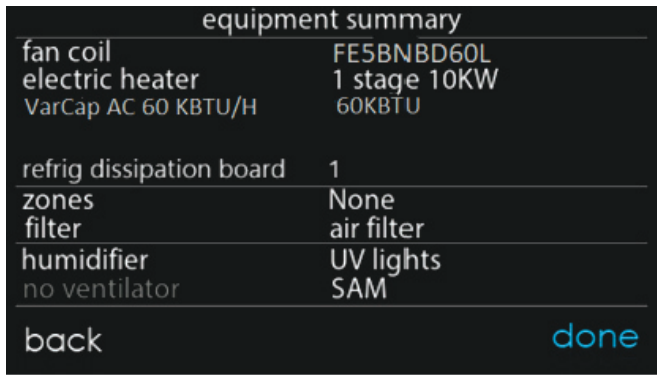

Fig. 11 – Equipment Summary Screen
4. The Infinity® System Control will then advance through the remaining learning processes including the setup of accessories such as filter type, UV light, and humidifier. Upon completion of the setup screens, the equipment summary screen will be presented (Fig. 11). Verify the correct equipment is shown on this screen. Next an airflow verification test is executed before returning to the main screen.